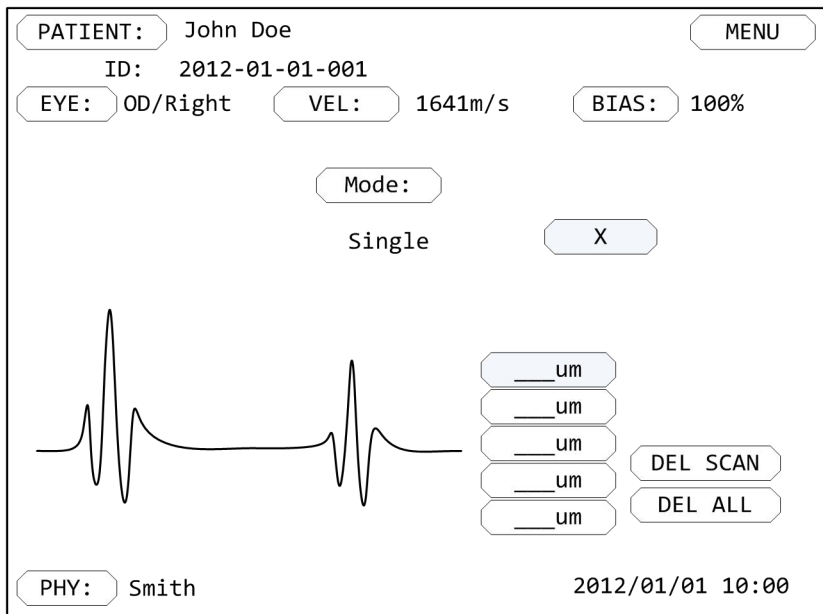

Figure 5-7 Single Mode of Pachymetry
1. **Single Mode.** This mode allows for the user to obtain five readings at one point along the corneal surface. (Figure 5-7)